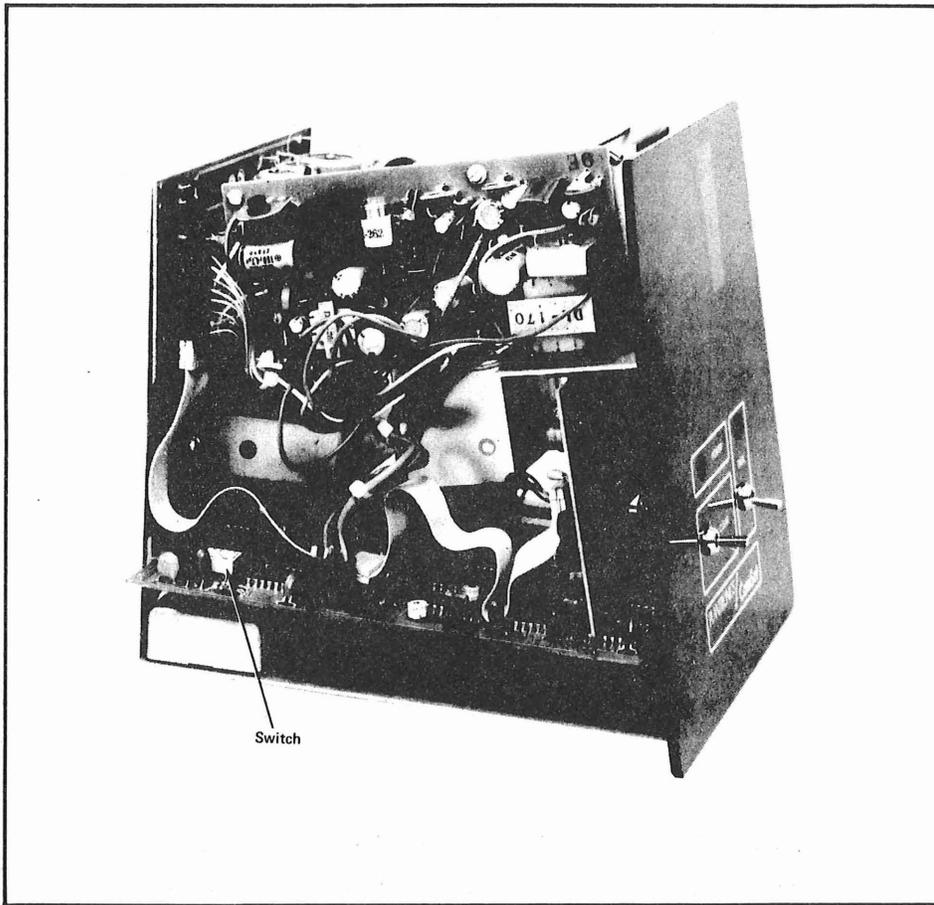

Figure 2-2. Baud Rate Switch Location
- (c) Locate data rate selector switch at bottom left rear of display unit on data converter board (see figure 2-2).